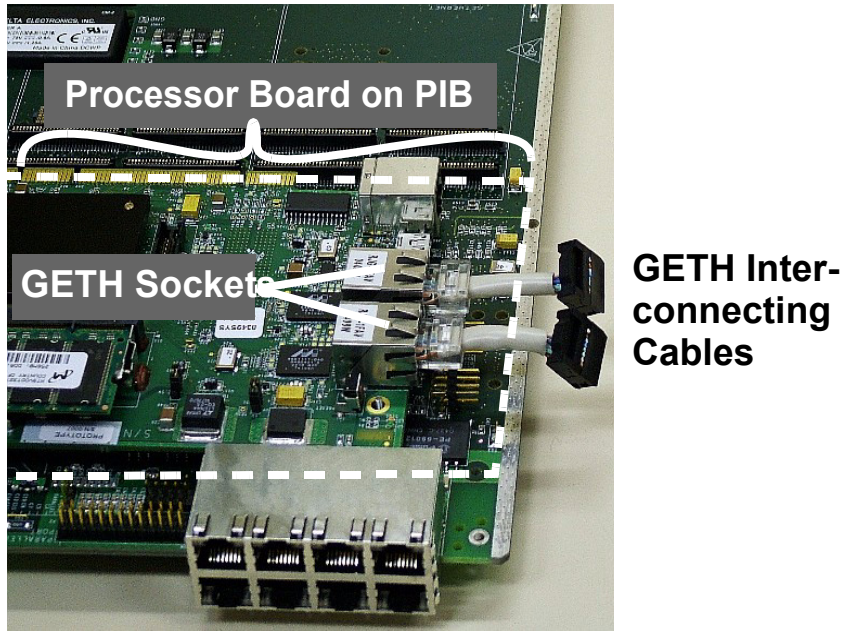
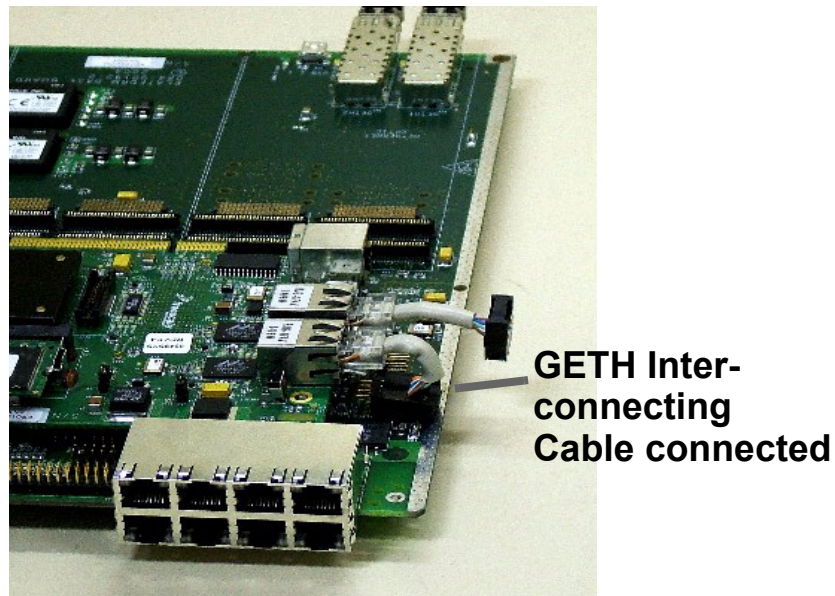

Figure 2-5 Insert GETH interconnecting cables to GETH sockets on Processor board
Figure 2-6 Connect GETH interconnecting cables to sockets on PIB
6. If you will be working with a back plane, and wish GETH signals to traverse either the back plane connection, or the front plane optical connection, connect the two GETH sockets on the Processor Board with sockets on the PIB board as shown in Figure 2-5 and Figure 2-6.